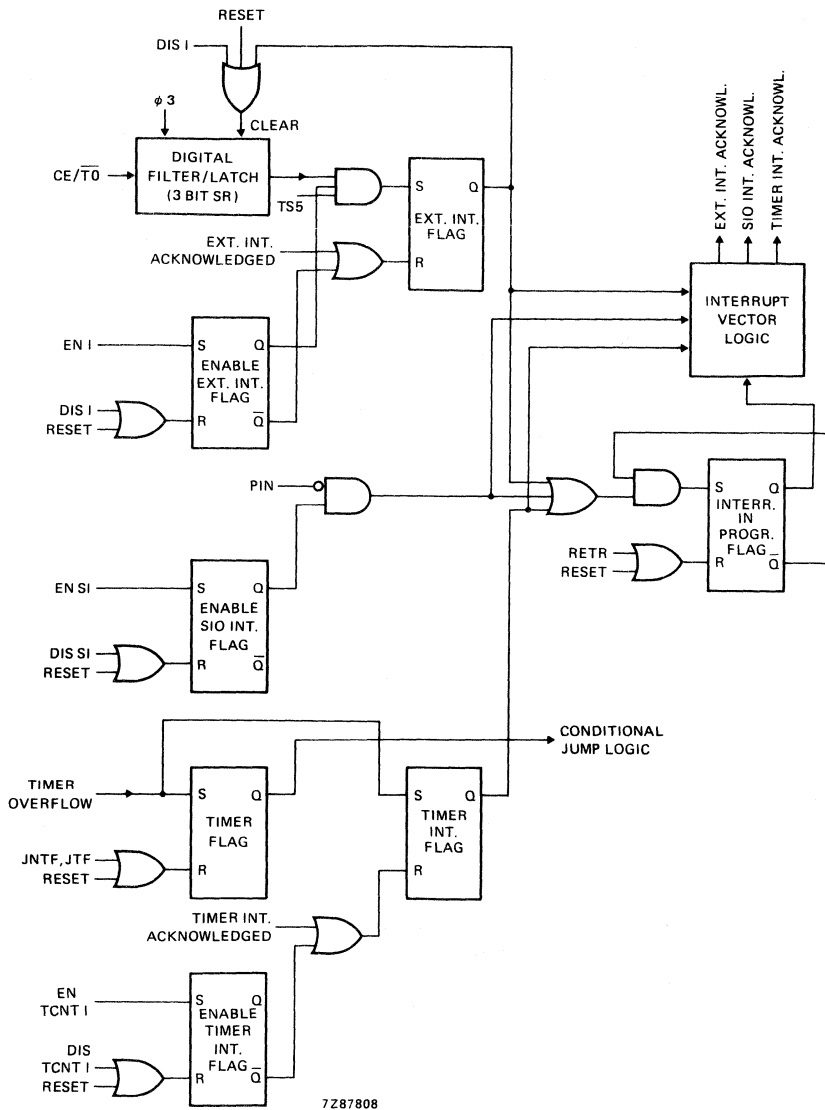

Fig. 15 Interrupt logic.
**FUNCTIONAL DESCRIPTION** (continued)**Interrupts** (see Fig. 15)
Notes to figure 15